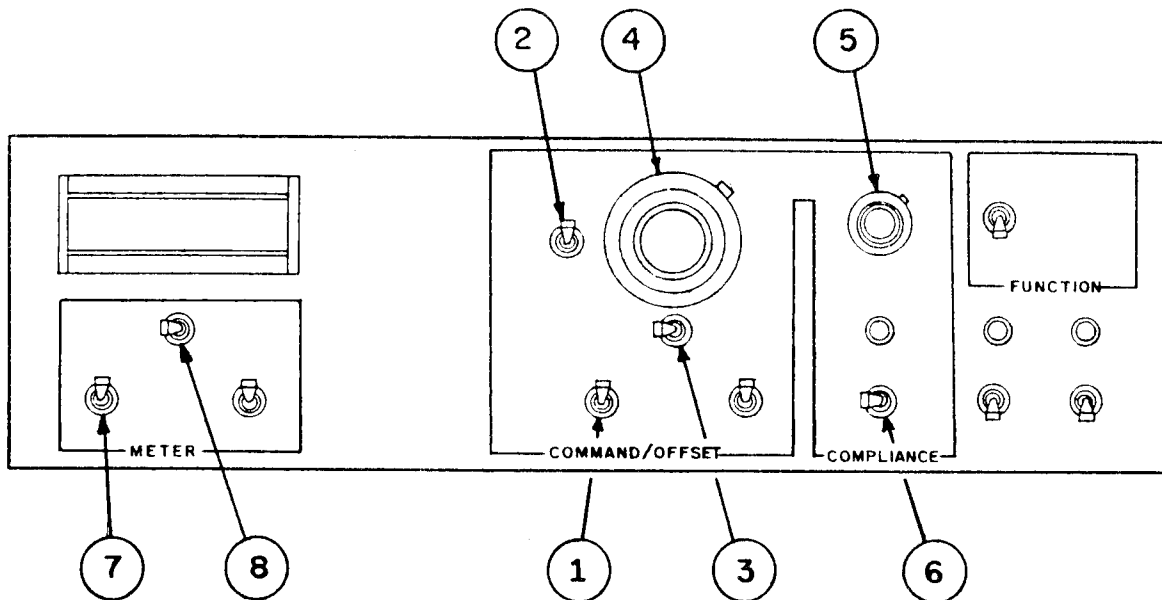

Figure 89. Example of Front Panel Settings
i. To perform a routine operation in the CONTROLLER mode, with the 610B acting as an integrator, given a random gain of 100V/V, set the controls as follows (see Figure 89):